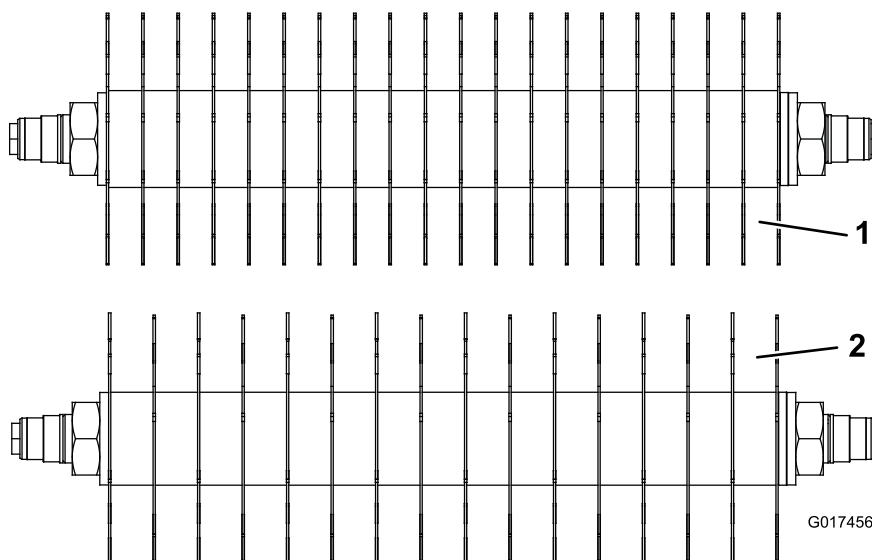

Figure 14
To change the configuration of the verticutter from the standard 1.25 inch spacing to 1.00 inch spacing requires (19) new spacers, part no. 93-3092 and an additional (4) carbide blades, part no. 106-8625 or an additional (4) regular blades, part no. 93-3038-03 (Figure 14).